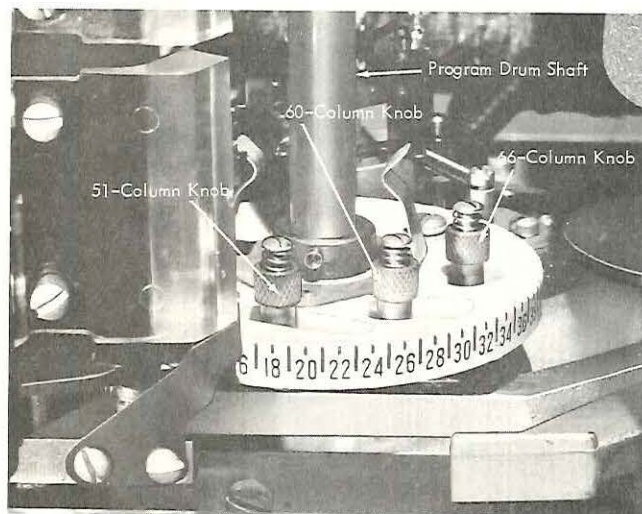

Figure 18. Program Cam Extension Knobs
4. The following settings are necessary whether or not a program drum is used. To set the program cam extension knobs, lift the program drum cover forward, turn the program control lever to raise the program drum starwheels, and lift the drum off its shaft (Figure 18). Space to column 16 on the column indicator and turn off the main line switch.